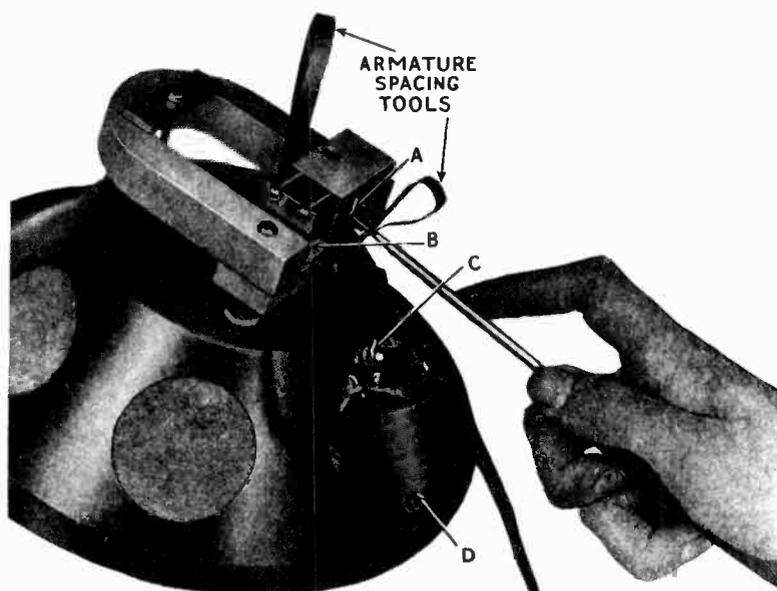

Figure 7—The use of the spacing tools in adjusting the armature
Two of these tools are necessary when adjusting the armature. Place one tool in the space between the armature and pole pieces of the motor mechanism at the end next to the filter unit. This is shown in Figure 7. The other tool is placed at the other end of the armature a little to one side in order to clear the drive pin located at this end of the armature. By loosening the two screws A and B, Figure 7, any tension in either direction, that may have been on the armature is released, and the spacer tools will provide the correct clearance or spacing. Now while the spacer tools are in place apply a hot soldering iron to the drive pin thrust lever connection point F, Figure 8, and heat the solder sufficiently to allow the drive pin to find its normal position with regard to the thrust lever. The iron is then removed, screws A and B are tightened and the spacer tools removed. This adjustment correctly aligns and balances the armature so that no abnormal strain is imposed upon it in any direction.
- (e) Place spacer tools in position to adjust the armature and tighten screws A and B, Figure 7.